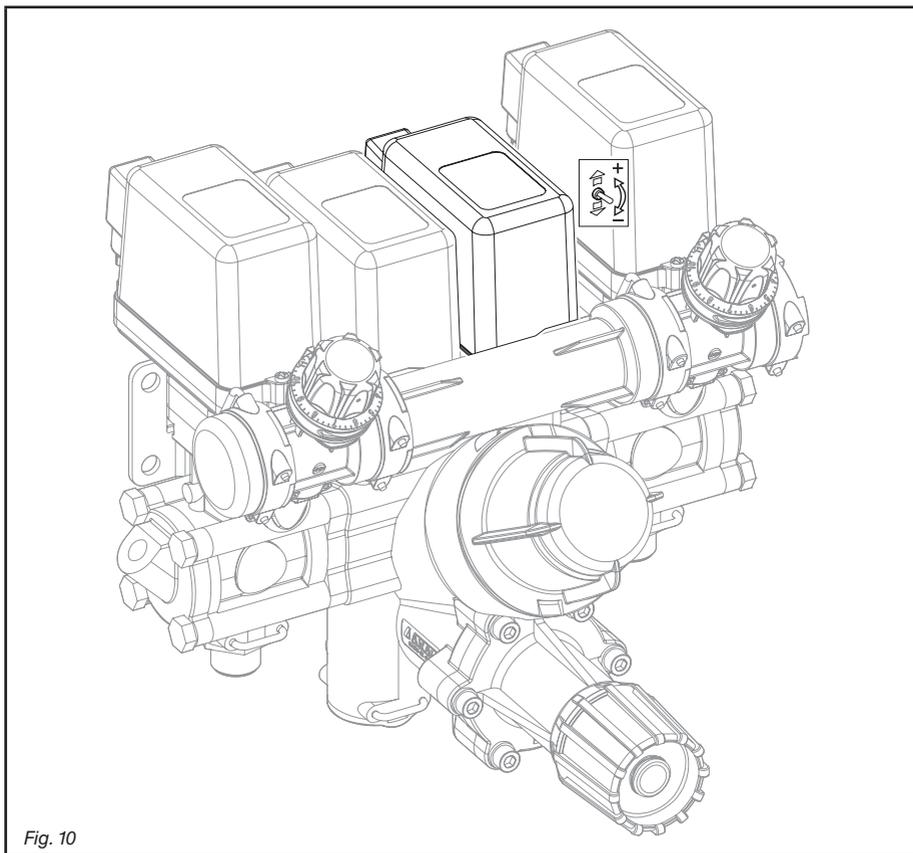

Fig. 10
6.1.2 Dispensing unit proportional to engine RPM (Fig. 10)